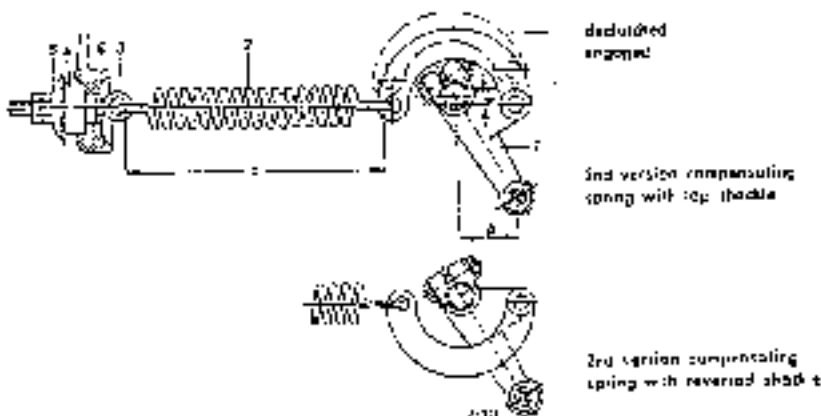

Fig. 29-1/4
pedal shaft is carried in a ball (3) in an end plate (2) attached to the transmission. The compensating spring (18) (dead center spring) which reduces the clutch pedal pressure on de-clutching is arranged on the right side of the clutch pedal in this version (Fig. 29-1/3).
The clutch pedal shaft is mounted in the same way as the 2nd version, except that the compensating spring (18 a) is attached on the right side to the relay lever and the clutch housing (Fig. 29-1/4).